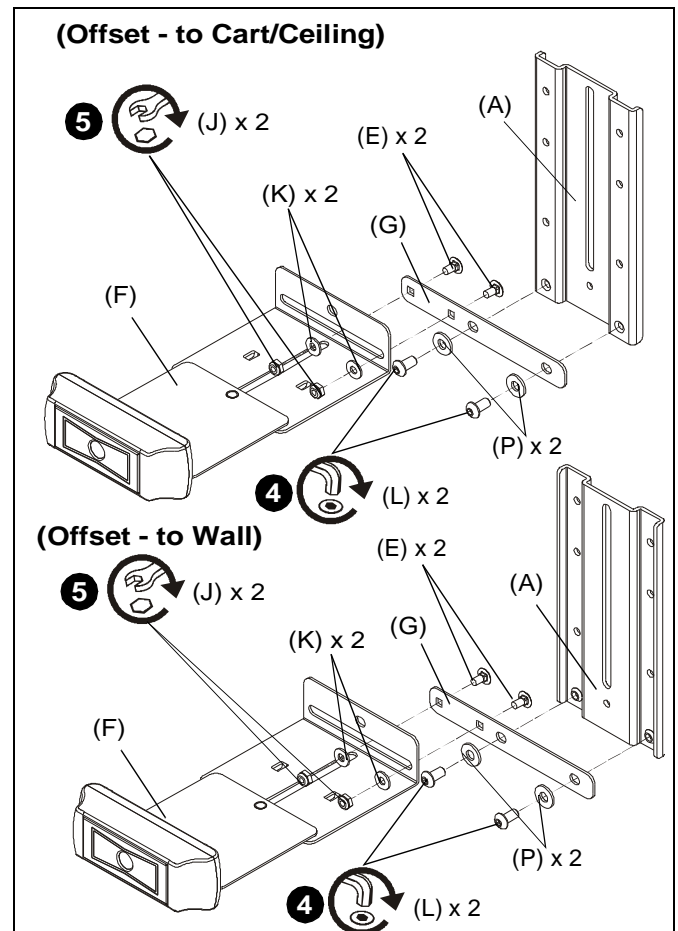

Figure 4
**NOTE:** If camera must be offset to one side or the other, attach camera mount (F) to upright bracket (A) as shown in Steps 4 and 5.
4. **(Offset)** Use two 1/4-20 x 1/2" button head cap screws (L) and two large washers (P) to secure horizontal bracket (G) to upright bracket (A). (See Figure 4)
5. **(Offset)** Use two #10-24 lock nuts (J), two small washers (K) and two round head carriage bolts (E) to secure camera mount (F) to horizontal bracket (G). (See Figure 4)